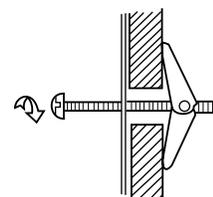

Figure 17
4. Align the Mounting Plate carefully and hold in position while tightening Toggle Bolts. Pull Toggle Bolt toward you and turn clockwise to tighten. Figure 17.